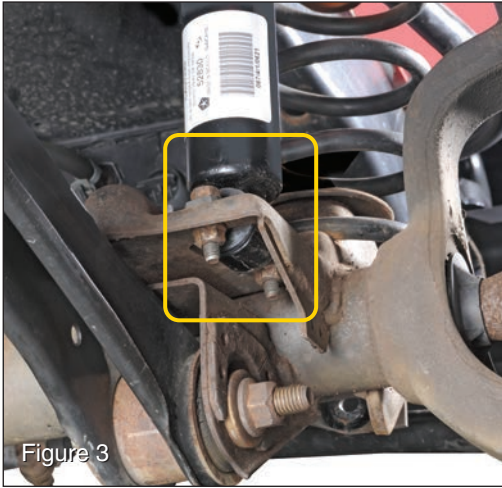

Figure 3
*Disconnect the bottom end of the front shocks using a 13mm deep well socket and open end wrench. (see FIG 3 & 4)*